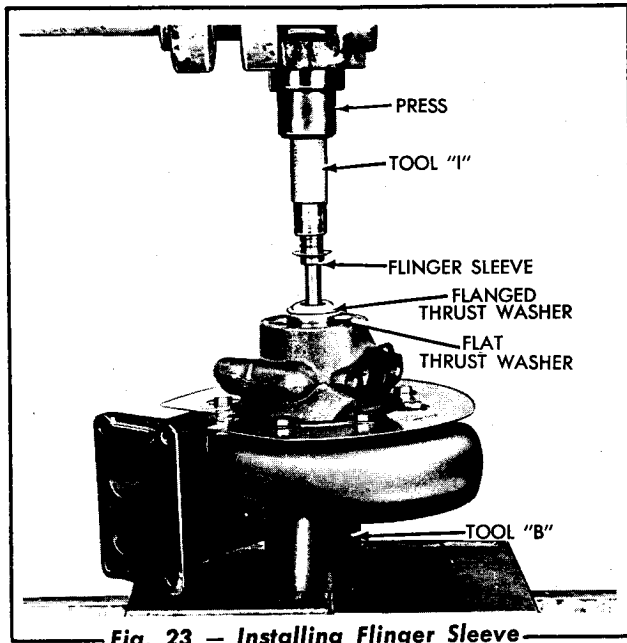

Fig. 23 — Installing Flinger Sleeve
- a. Start flinger sleeve on shaft, seal ring groove to the top (Fig. 23).